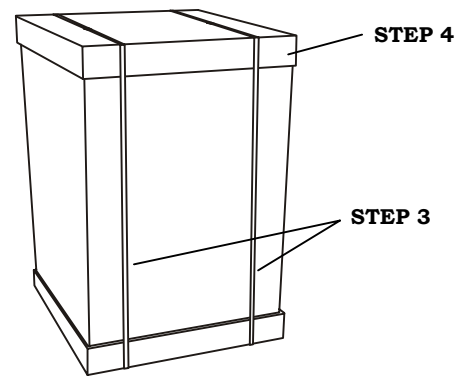

FIGURE A-2
3. Now cut the two remaining shipping straps that surround the shipping package. See Figure A-2.